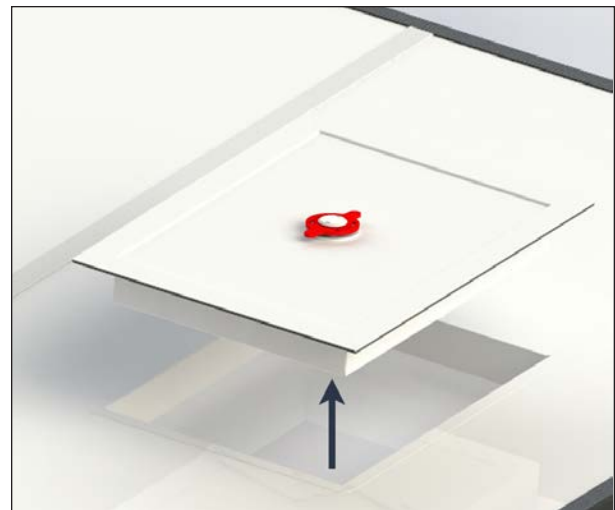

FIGURE 107: REMOVE HATCH
2. Push straight up on the escape hatch and move it to the side, see Figure 107.